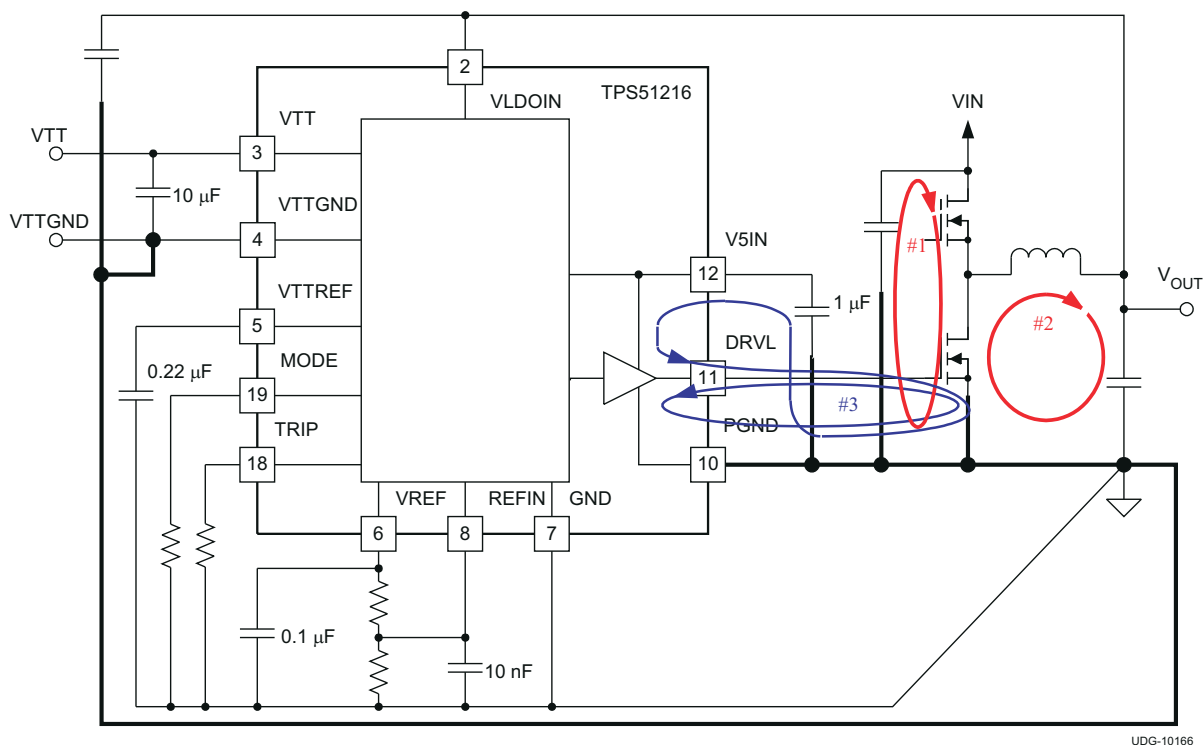

Figure 11-1. DC/DC Converter Ground System
- The most important loop to minimize the area of is the path from the VIN capacitors through the high and low-side MOSFETs, and back to the capacitors through ground. Connect the negative node of the VIN capacitors and the source of the low-side MOSFET at ground as close as possible. (Refer to loop number 1 of Figure 11-1)
- The second important loop is the path from the low-side MOSFET through inductor and VOUT capacitors, and back to source of the low-side MOSFET through ground. Connect source of the low-side MOSFET and negative node of VOUT capacitors at ground as close as possible. (Refer to loop number 2 of Figure 11-1)
- The third important loop is of gate driving system for the low-side MOSFET. To turn on the low-side MOSFET, high current flows from V5IN capacitor through gate driver and the low-side MOSFET, and back to negative node of the capacitor through ground. To turn off the low-side MOSFET, high current flows from gate of the low-side MOSFET through the gate driver and PGND, and back to source of the low-side MOSFET through ground. Connect negative node of V5IN capacitor, source of the low-side MOSFET and PGND at ground as close as possible. (Refer to loop number 3 of Figure 11-1)